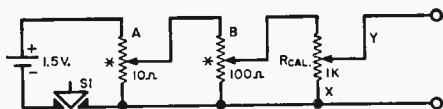

Fig. 2. Two-number d.c.-operated multiplier.
**Figure 2.** In this simple two-number multiplier, voltage is furnished by a flashlight battery when the momentary contact switch *S1* is pushed. *Rcal* is the calibration control, potentiometers *A* and *B* are operational multiplier elements, and a voltmeter is connected across the output terminals.
Use one flashlight cell if the lowest scale on your voltmeter is 1.5 volts or less; use two cells for 2.5 volts. If the lowest scale is greater than 2.5 volts, but less than 4.5 volts, use six cells in series-parallel to furnish 4.5 volts. (Pots with asterisks in Figs. 2 and 3 are Clarostat Type 58C1.)
The circuit in Fig. 2 will yield most accurate results with VTVM's and voltmeters having sensitivities of 5000 ohms per volt or greater. For voltmeters with sensitivities between 5000 and 10,000 ohms per volt, *Rcal* should be connected as a series rheostat by breaking the connection at the point marked X. A fixed series resistance may have to be inserted in the lead at point Y which can be determined experimentally.